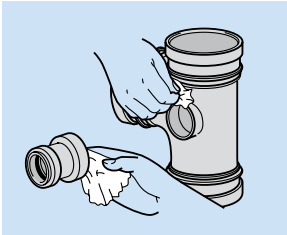

Fig. 36
- Remove swarf and clean mating surfaces with Terrain cleaner 9101 (Fig. 36).